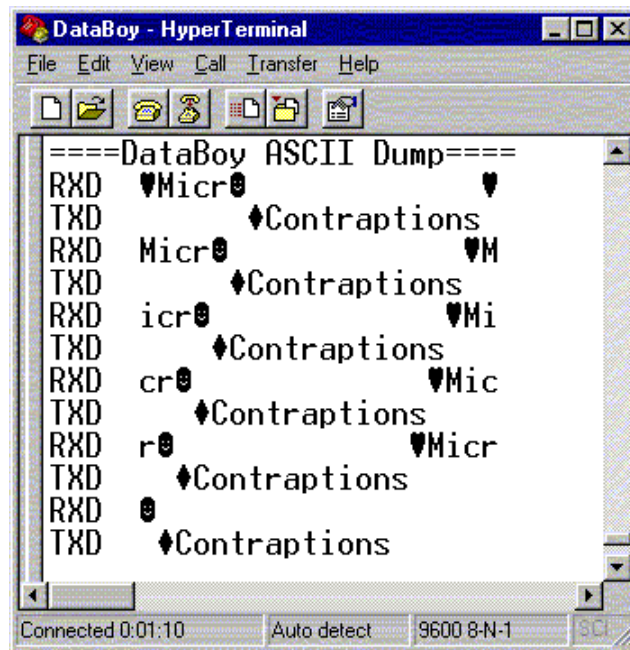

Figure 11. Screen dump in ASCII format.
- **Screen dump** will transmit only the data shown on the screen (prior to pressing SELECT key). Data will be sent in the current display mode (ASCII or Hex). See Figures 11 and 12.
- **Buffer dump** will transmit all data saved in DataBoy's capture buffer. Data will be sent in the current display mode (ASCII or Hex). See Figures 11 and 12.
If **Screen dump** or **Buffer dump** is selected, each row of data is preceded with an "RXD" or "TXD" tag to identify which channel it came from. See figures 11 and 12. If data is captured in multi-drop mode and dumped in hexadecimal format, characters that have the address indicator bit (parity bit) set to '1' will be preceded by an angle bracket (>). See figure 12.
Figure 12. Screen dump of Figure 11 in hexadecimal format. Characters preceded by '>' have the address indicator bit set (in multi-drop mode, this is the parity bit, or 9th bit).